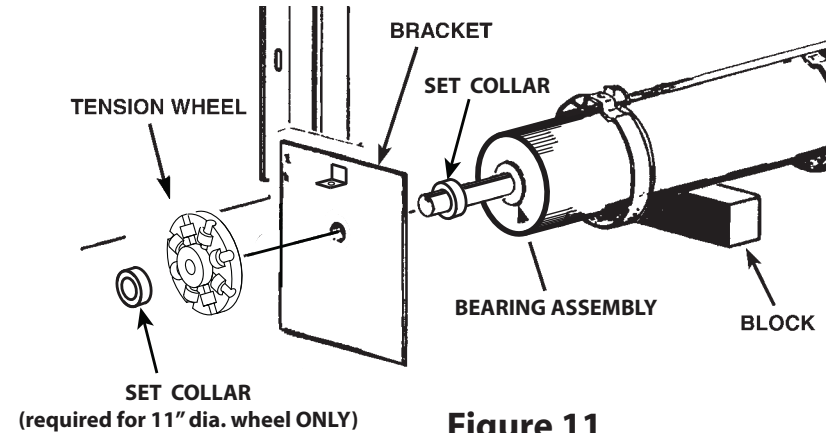

Figure 11
- Set barrel assembly on blocks or sawhorses so headplate brackets clear the floor. See Figures 11 and 12.
- Secure tension wheel to tension shaft as shown in Figure 11.
- If Tension Wheel is 11" in diameter or larger, slide set collar next to Tension Wheel and secure to tension shaft as shown in Figure 11.